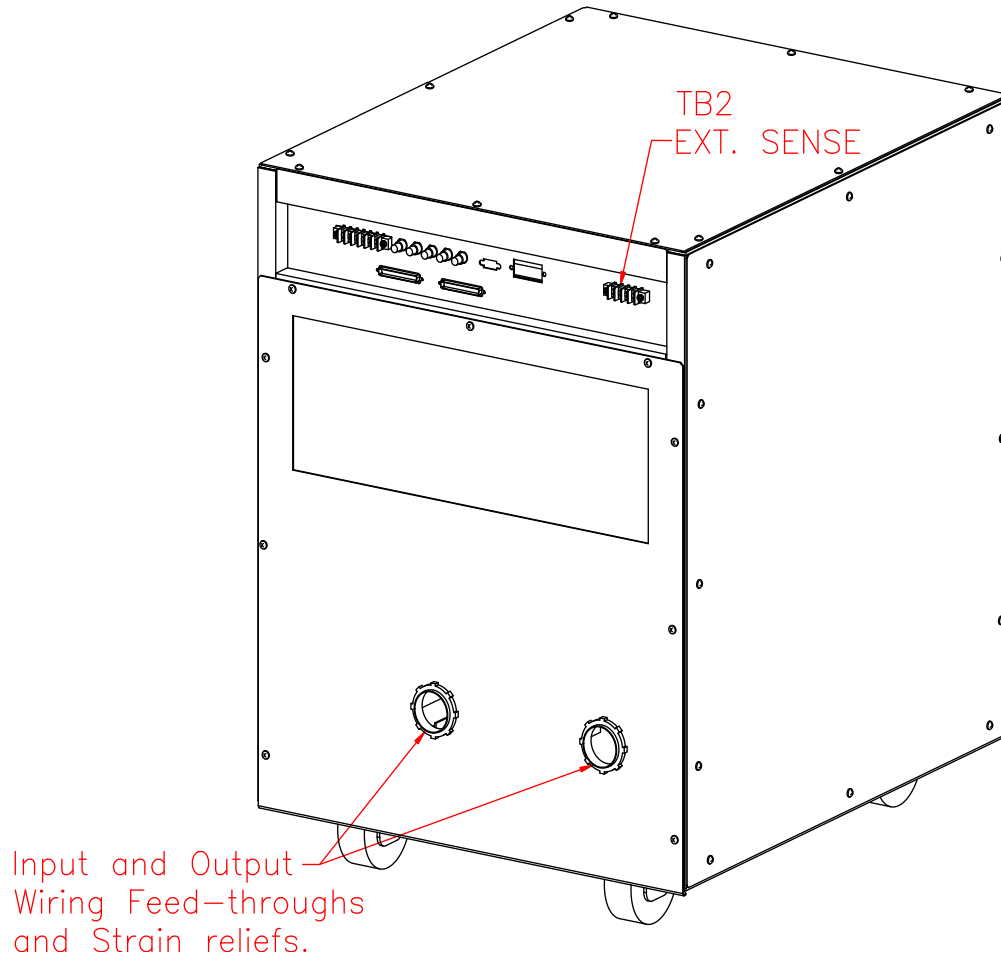
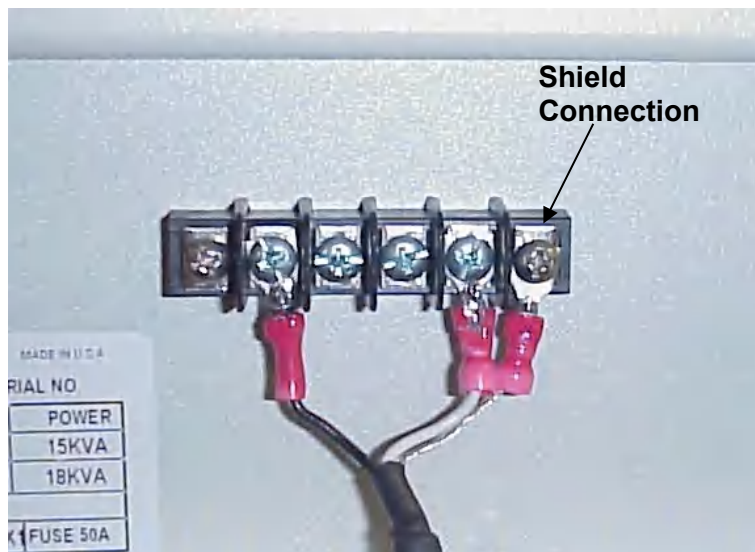

Figure 3-4: Rear Panel
Figure 3-5: External sense cable shield connection to chassis ground
No wiring for AC input connections is provided with the MX Series and must be provided by the end user or installer. Input wiring should be entered through the right-hand side (when facing the back of the MX cabinet, see Figure 3-4) wire access opening located at the rear bottom of the MX15 chassis.
The external sense inputs allow the power system output voltages to be monitored directly at the load and must be connected at TB2 when the sense is programmed for external. The external sense input does not have to be connected when Internal Sense is programmed. The external sense wires are to be connected to TB2 on the rear panel and should be run using a twisted shielded cable. See Figure 3-4 for location of TB2 and Figure 3-5 for shield connection detail.
**Note:** *For External Sense connection, a shielded cable MUST be used with the shield connected to chassis ground at the Ext. Sense connector. (See Figure 3-5).*